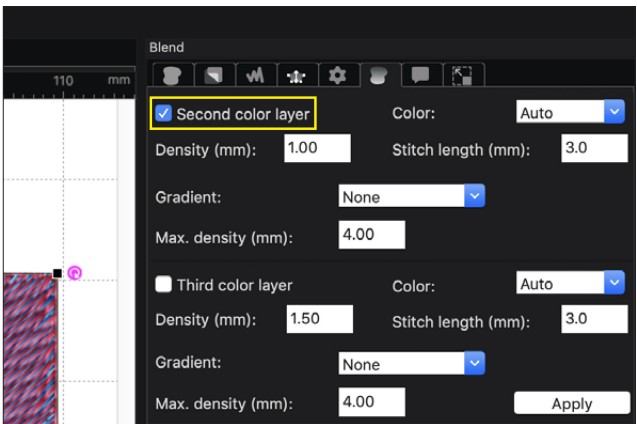

Figure 63
2. Your object is already assigned a color, which is known as the first color layer. Select the Second Color Layer box to apply a second color to create your gradient. **See Figure 63.**